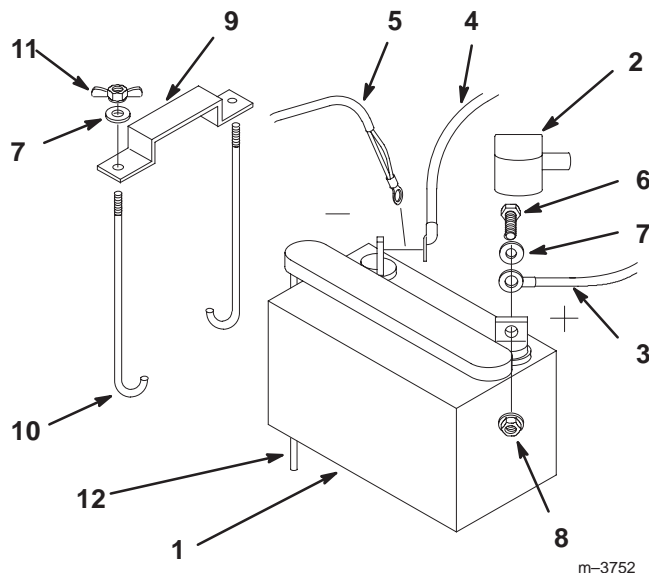

Figure 8
1. Position battery in tray with terminal posts toward the engine (Fig. 8).
4. Secure cables with (2) 1/4 x 3/4" (19 mm) bolts 1/4" washers and 1/4" locknuts (Fig. 8).
6. Secure battery with J-bolts, hold down clamp and (2) 1/4" washers and (2) 1/4" wing nuts (Fig. 8).